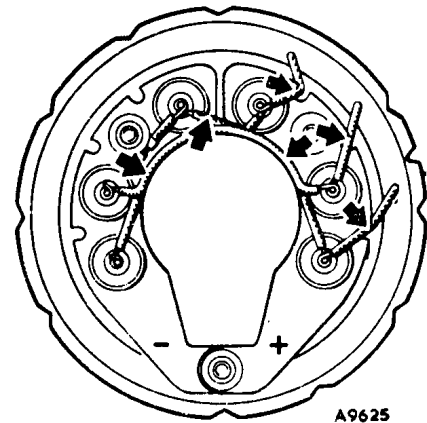

Fig. N.54
- (13) Remake the cable connections to the heat sink using 'M' grade 45—55 tin-lead. Take care not to overheat diodes or bend the pins. Secure the inter-connections in the positions shown in Fig. N.54 using a high temperature resistant adhesive.
- (14) Check that the bearings do not allow excessive side-float of the armature shaft. If the needle bearing is faulty, the slip ring end bracket and